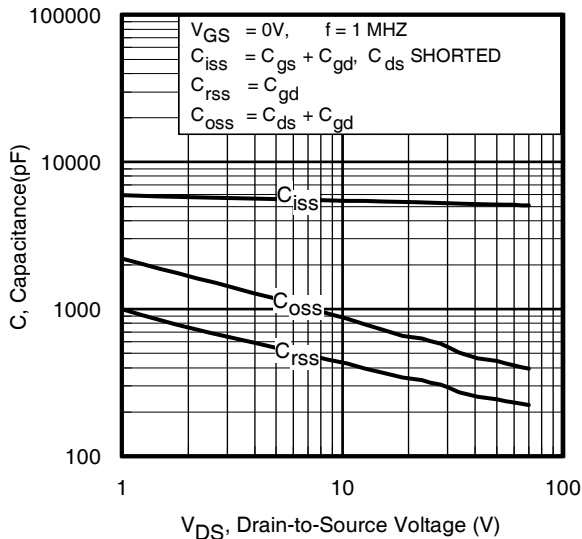

Fig 5. Typical Capacitance vs. Drain-to-Source Voltage
| C _{oss} eff. (TR) | Effective Output Capacitance (Time Related) ^⑥ | — | 700 | — | | V _{GS} = 0V, V _{DS} = 0V to 60V ^⑧ See Fig. 5 |